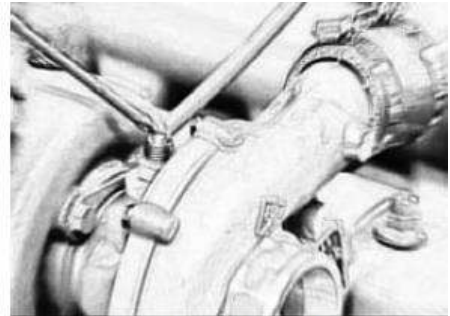

Fig 5-31 Turbo-charger Oil Inlet Pipe Installation
3.2.3 When installing oil inlet pipe, add suitable oil into oil inlet of turbo-charger, then tighten oil inlet pipe(see Fig 5-31).